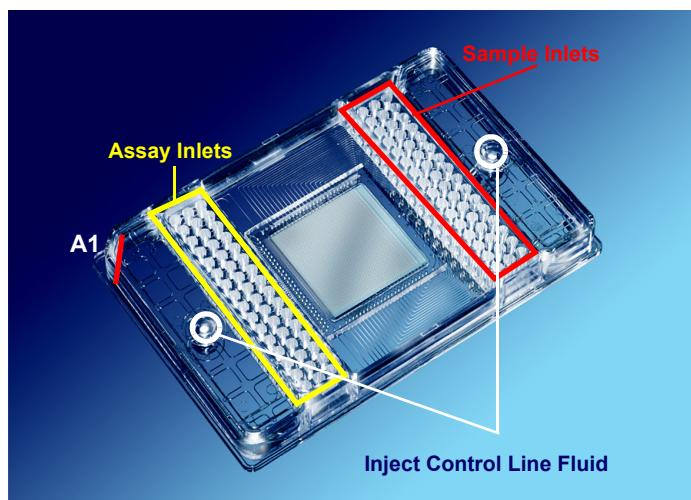

Figure 1. 48.48 Dynamic Array IFC assay and sample inlets
- 1 Inject control line fluid into each accumulator on the IFC (see Figure 1).
- 6 Pipet 4  $\mu\text{L}$  of appropriate 10X Assay Mix into each assay inlet on the IFC (see Figures 1 and 2).
- 7 Pipet 5  $\mu\text{L}$  of appropriate Sample Mix into each sample inlet on the IFC (see Figures 1 and 2).